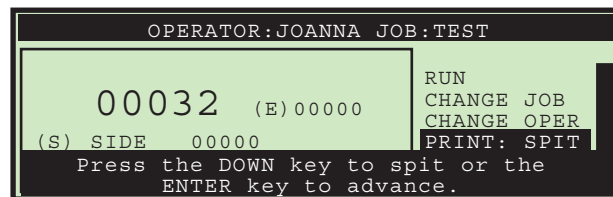

Figure 81: Run screen with PRINT = SPIT
2. Press the Enter key a few times until “PRINT: SPIT” appears with instructions, as in Figure 81.